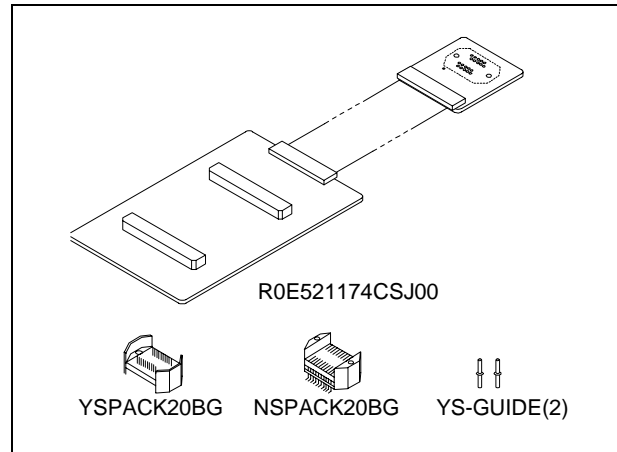

Figure 1 Package components of the R0E521174CSJ00
2. Package Components (See Figure 1)